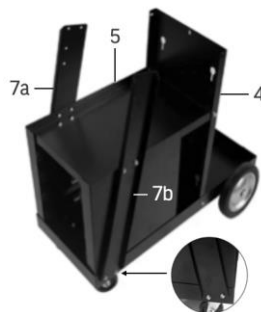

Fig. 3
8. Secure in place with the left support (#7a) and right support (#7b) using the provided M6 x 12 bolt, washer and nuts (Fig. 3).